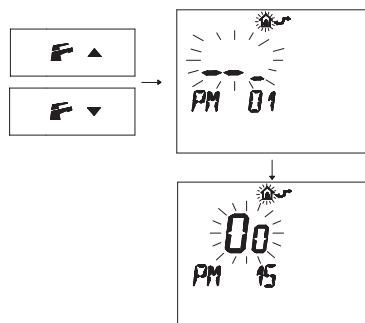

Fig. 7.16
- Press buttons  or  to display the "PM15" program that enables the external probe (Fig. 7.16).